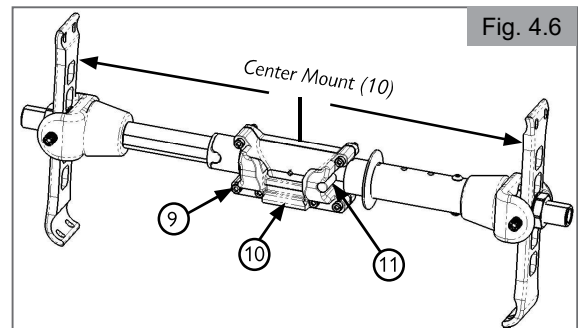

Fig. 4.6
- Slide the Axle Adapter Receiver (6) over the Folding Axle Adapter (3) on one side.
- Compress the Folding Axle Assembly (1) until you are able to slide the other Axle Adapter Receiver (6) over the corresponding Folding Axle Adapter (3).
- Check to ensure the Folding Axle Assembly (1) is securely compressed between the wheelchair's two Axle Plates (4).
3. Centering the receiving mount and hardware onto wheelchair (Fig. 4.6):
- a. Loosen the hardware (9) with 4mm allen wrench so the mount (10) can be positioned correctly.
- c. Rotate the mount until level bubble (11) is centered when weight is added on the chair.